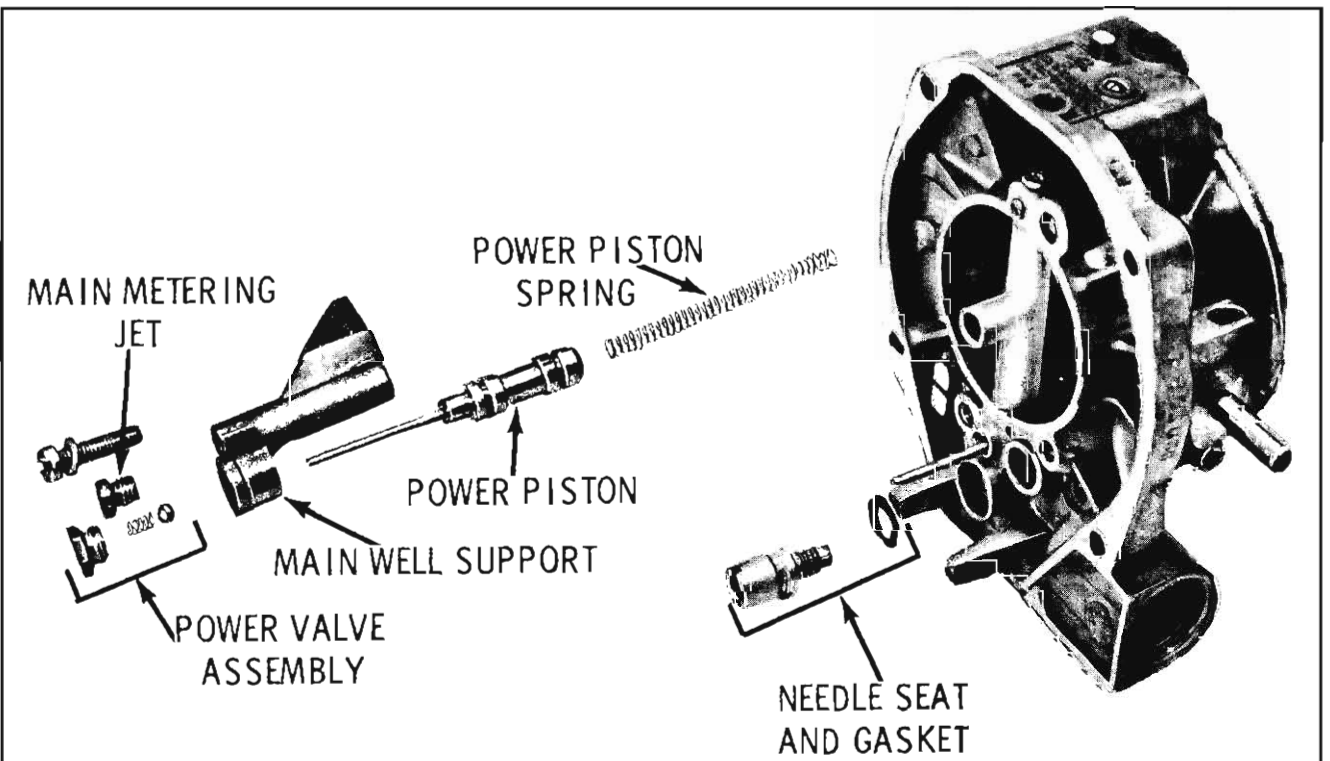

Fig. 4-112 Air Horn
5. Remove main metering jet from bottom of main well support. (Fig. 4-112)
6. Remove hex head power valve check ball retainer from bottom of support, then remove power valve spring and ball. (Fig. 4-112)
then remove the main well support from air horn. (Fig. 4-112)